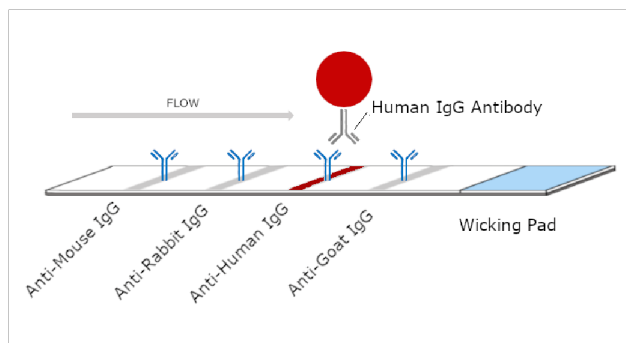

Figure 1. Schematic of the Conjugation QC Lateral Flow Dipstick and its use for evaluating conjugation of an antibody to gold nanoparticles.
The dipstick strips supplied in the kit have four anti-species antibodies (anti-Goat IgG, anti-Human IgG, anti-Rabbit IgG and anti-Mouse IgG) immobilized at discrete locations (test lines) on the membrane of the strip. When an antibody-conjugated gold nanoparticle migrates up the test strip, it will bind to the location with immobilized antibodies specific for the antibody species conjugated to the gold nanoparticle. As a result, a red line will appear indicating a successful conjugation reaction, figure 1. A conjugate from a failed conjugation reaction will not generate any red lines indicating that troubleshooting is required.
4. Place a lateral flow dipstick into the well with conjugate and running buffer. The strip should be placed into the solution with the logo of the strip positioned up, see figure 1.
The appearance of at least one clearly visible red line in the location of the test line specific for the species of antibody conjugated to the gold nanoparticles indicates a successful conjugation, see figure 1. A failed conjugation reaction will not result in the formation red lines on the strip.